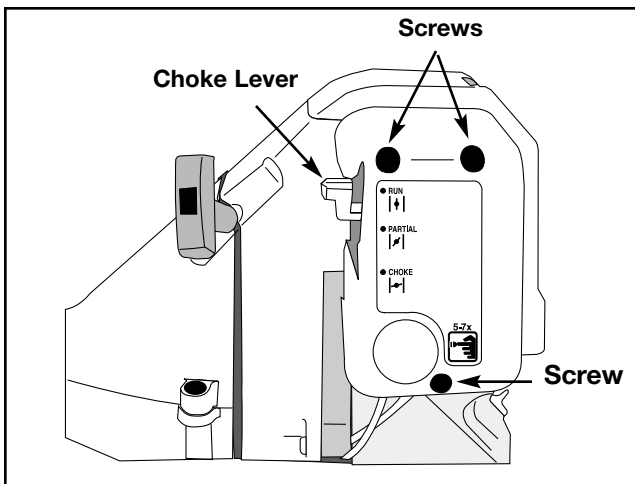
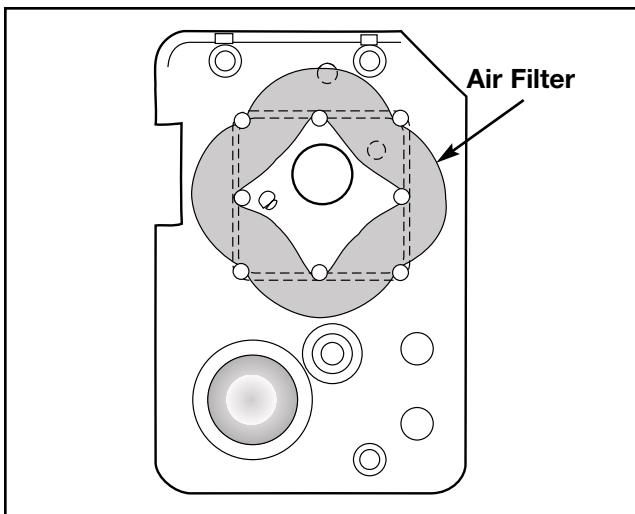

Fig. 35
Fig. 36
1. Remove the three (3) screws on the carburetor/air filter cover assembly. Remove the air filter cover (Fig. 35).
2. Remove the air filter (Fig. 36).
6. Reinstall the filter (see Fig. 36), air filter cover and screws (see Fig. 35). Torque the screws to **2.8-3.4 N•m (25-30 in•lb)**.